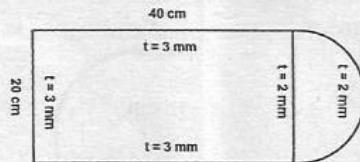

Fig.7
14. (a) Determine the shear flow pattern for the thin walled closed section shown in Fig.7. The section is subjected to a torque 10 kN-m (anti-clockwise direction).